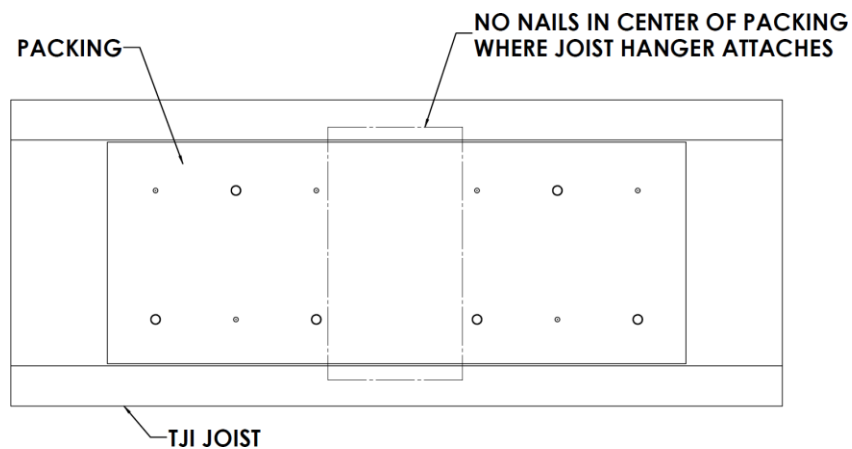

Figure 191: **Avoid Placing Nails in the Center of the Board**
- Avoid the center of the board where the joist hangers will be attached, as shown in Figure 191.